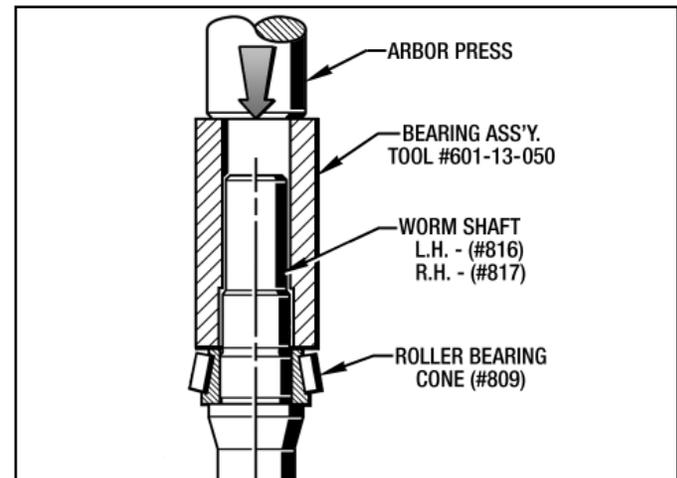

Figure 9.3 - Installing 1st. Roller Bearing
2. Use Ass'y. Tool #601-13-050 and an Arbor Press to install the 1st. Roller Bearing Cone (#809) onto the input end of the worm shaft as shown in *Figure 9.3* below.